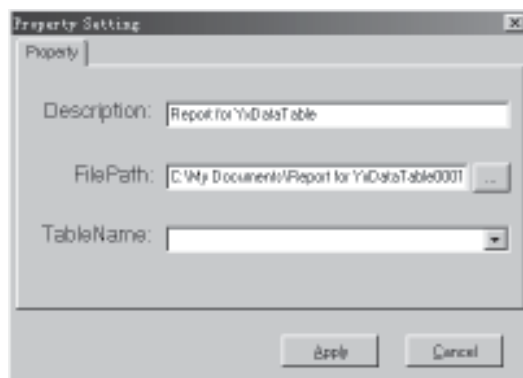

Fig. 8-26 Properties Modifying Dialogue Block
2.3 Modify the properties of the listing option. First select the **listing option** to be modified and then click the **right mouse button**. Then the dialogue block, as in Fig. 8-23, will be shown. Select the **Property function** option, then the **dialogue block**, as in Fig. 8-26, will be shown. In the dialogue block, modify the Description and FilePath, and then click **Apply**. Thus the modification is completed.